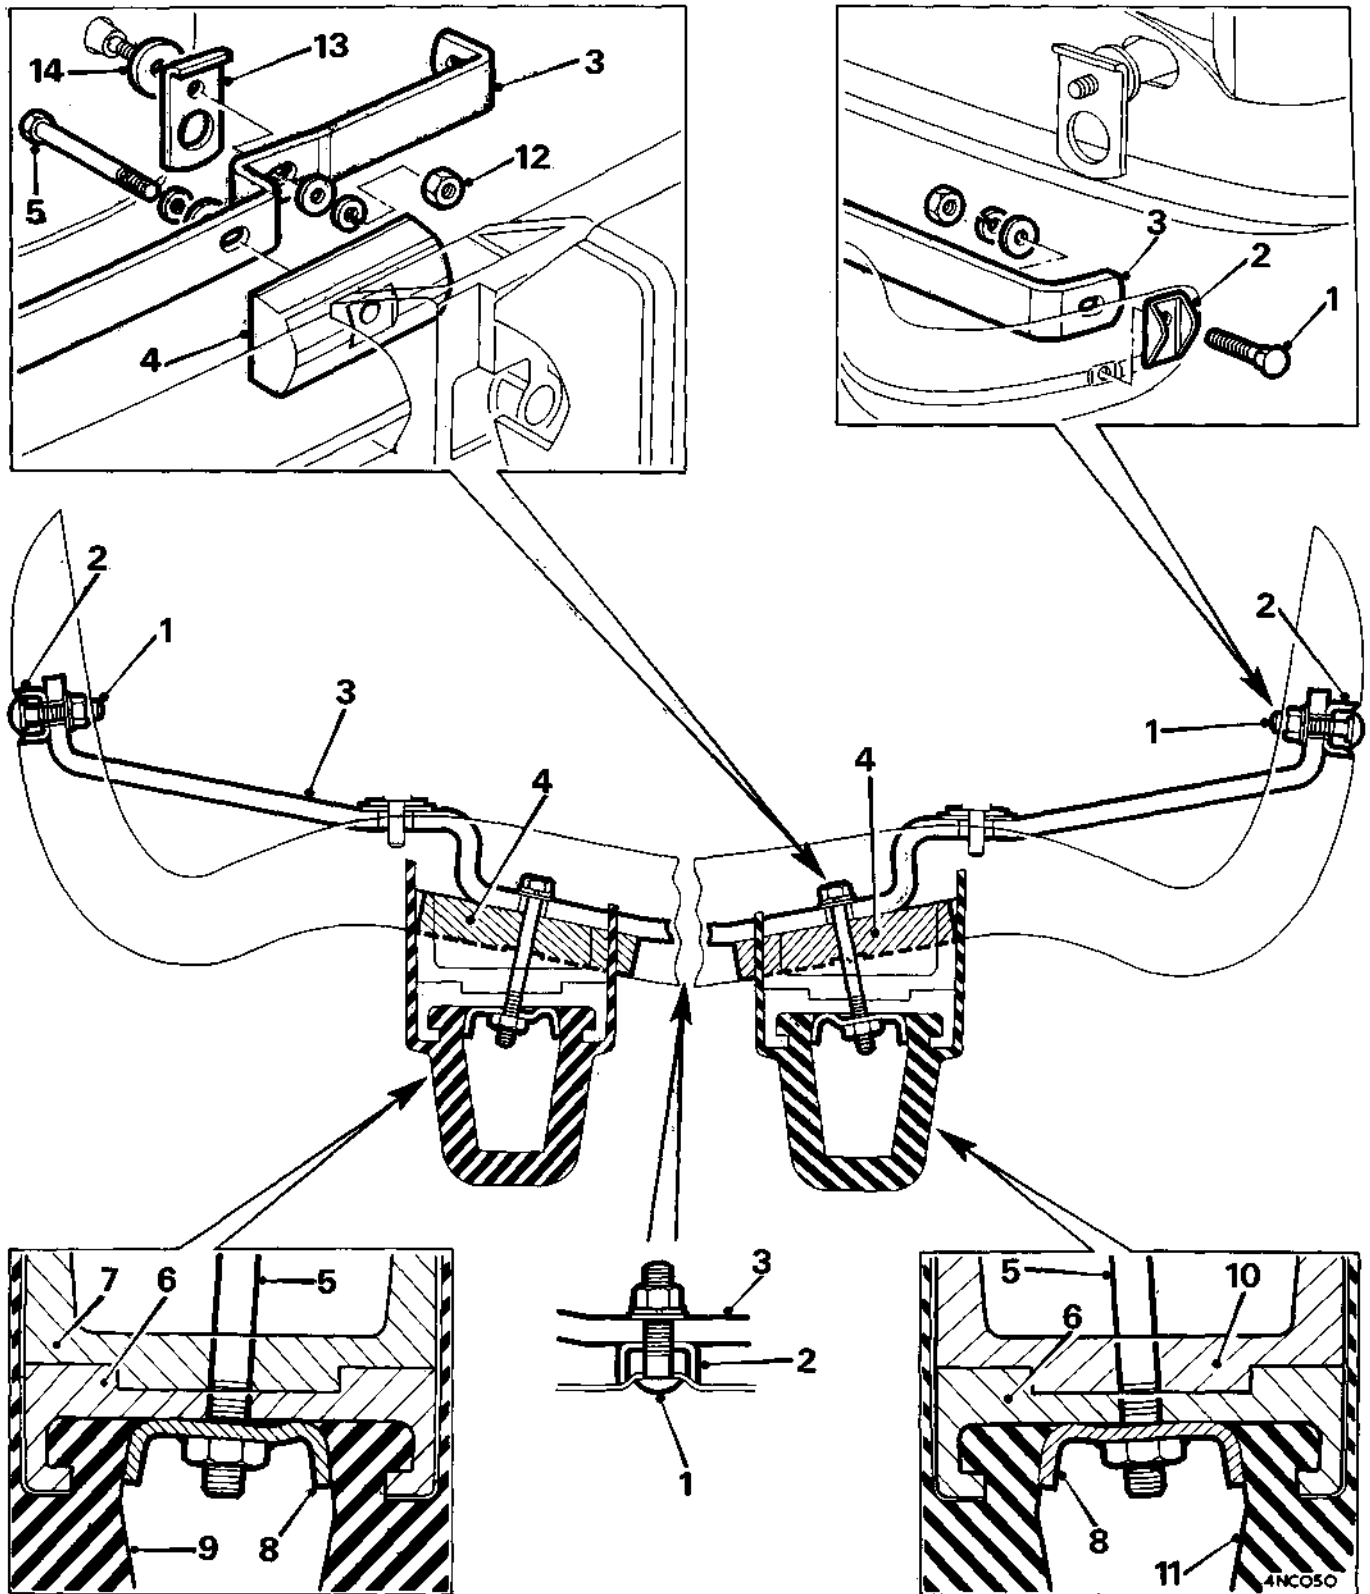

Fig. Ra.7
5. Reverse the procedure in 1 to 4, referring to Fig. Ra.7 and noting the following: